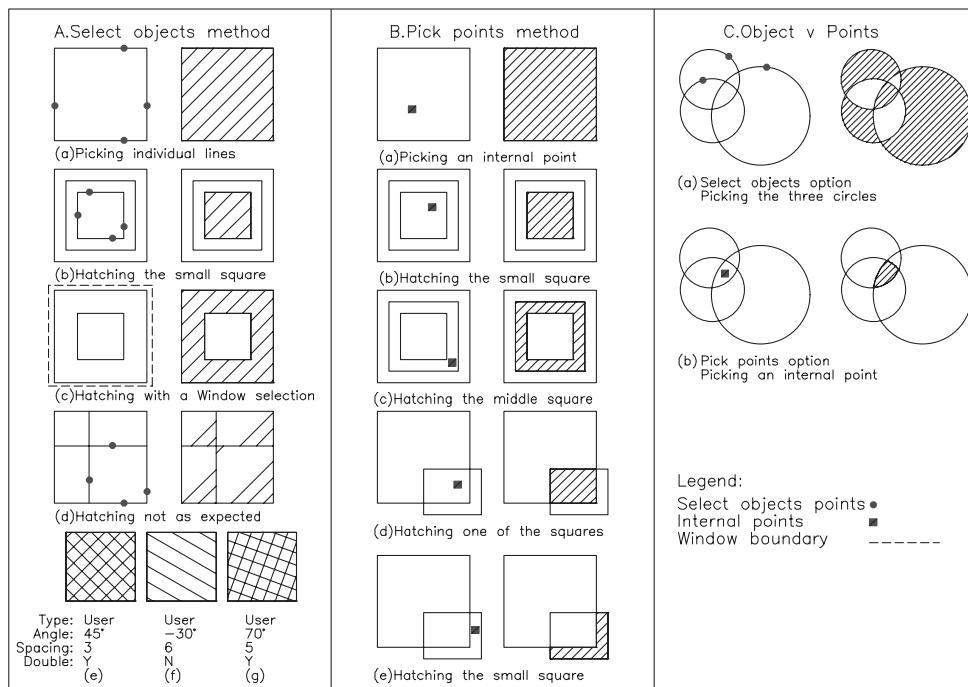

Figure 18.1 User-defined hatching with both select objects and pick points methods.
- 2 Refer to Figure 18.1 and add the other lines within the required squares (any size).